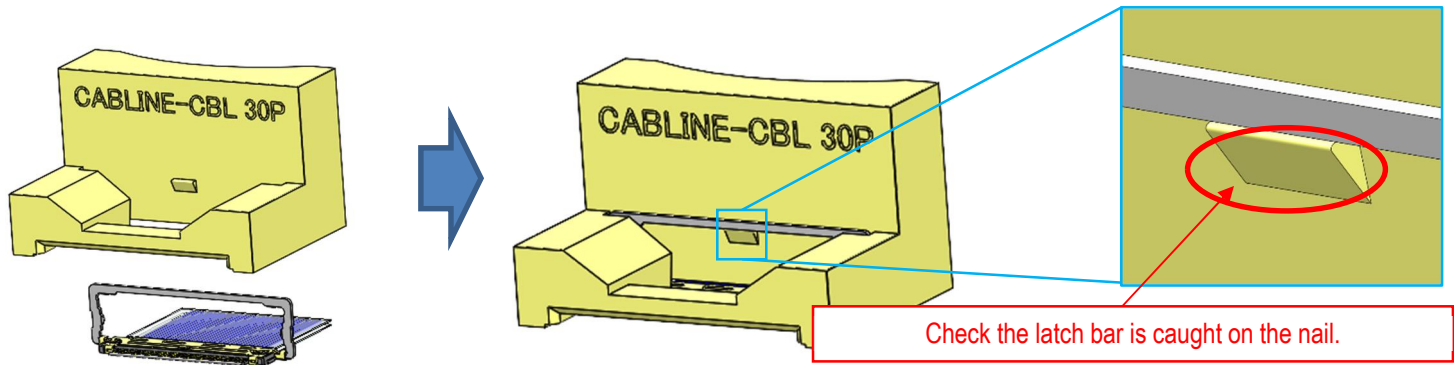

Fig.11
- ① Stand up the Lock bar vertically and fit the jig from above. (Fig.11)